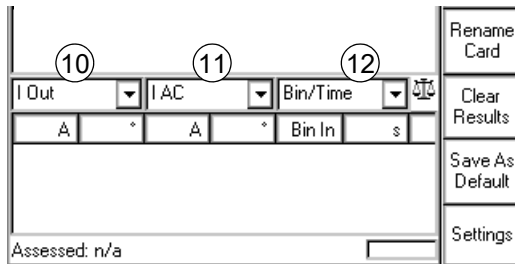

Figure 8-5: Step 3 - Specify the values that the measurement table will show
- ⑦ • The availability of the trigger signals depends on the selected values set at ⑩ and ⑪ of the measurement table (refer to Figure 8-5).